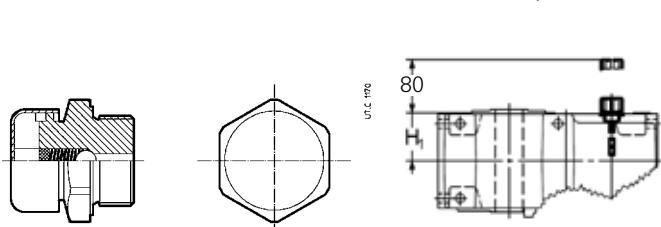

Fig. 6.1.1
**Be sure that, for gear reducers and gearmotors sizes  $\geq 100$ , the filler plug is equipped with filter and valve** (symbol ; see fig. 6.1.1). When these gear reducers are required filled with oil (non-standard design) the **filler plug** is not mounted but **sent separately**; The installer will take care of the assembly in the right position (see ch. 6.4 or eventual SPT sketch attached) replacing the fitted plug.